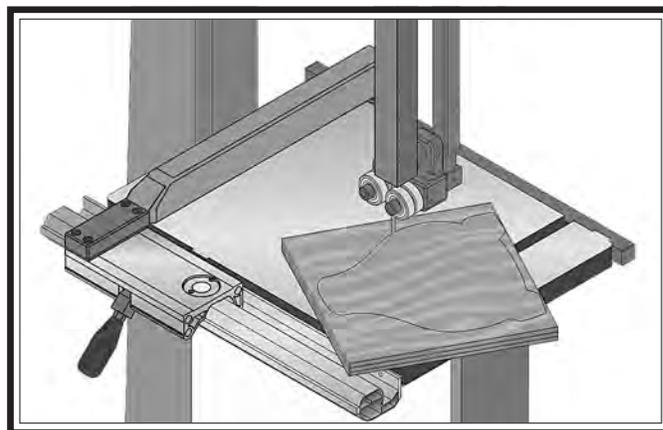

Figure 70. Example of a stacked cut setup.
5. Cut stack of pieces along your layout line as though you were cutting a single piece (see **Figure 70** for an example of a stacked cut setup).